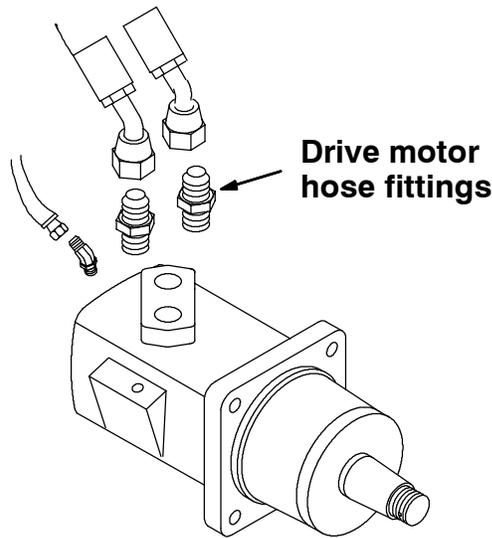

FIG. 12 - Drive Motor Hydraulic Fittings
11. Reconnect the hydraulic hoses. (Refer to FIG. 12)